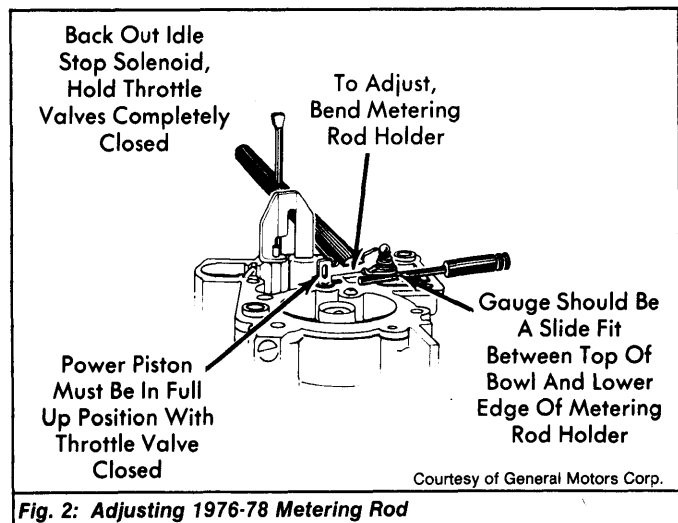

Fig. 2: Adjusting 1976-78 Metering Rod
- All 1976-77 & 1978 Chevette** - 1) Remove air horn and gasket. Back out idle stop solenoid. Rotate fast idle cam so idle screw is not touching steps on fast idle cam. Hold throttle valve in fully closed position. See Fig. 2.